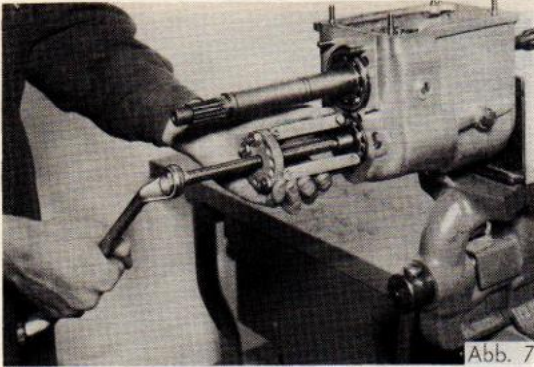

Abb. 7
9. Extract ball-races from both ends of layshaft (use standard commercial type drawer) (Fig.7).